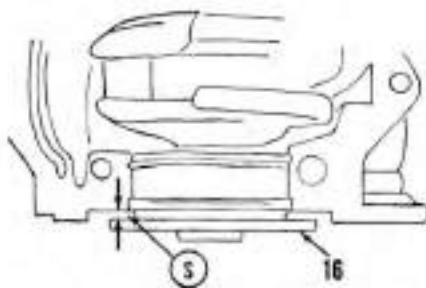

Fig. Mc135 — Suggested method of adjusting crankshaft end play on two cylinder motors with ball bearing mains. Refer to text.
On motors equipped with ball bearing mains, crankshaft end play is controlled by shims located underneath the bearing flanges. On two cylinder motors, crankshaft end play is controlled to 0.000-0.002 by means of shims (14—Fig. Mc127). The thickness of shim pack should be determined after crankshaft and bearings are installed in cylinder block, but before crankcase front half is installed, as follows: Temporarily install the lower bearing cap (16), without shims as shown in Fig. Mc135. While holding cap firmly against lower main bearing, measure the gap (B) between bearing flange and crankcase. Record the measurement for future use. Install crankcase front half, then install a shim pack beneath the lower bearing flange equal to the measured thickness. Shims are available in thicknesses of 0.001, 0.002 and 0.005.